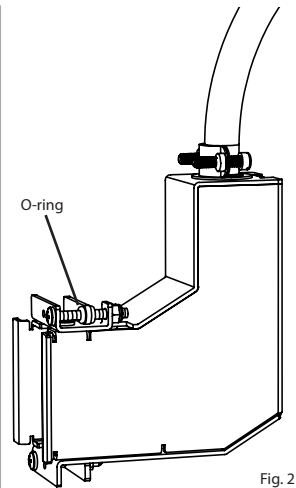

Fig. 2
8. Flip **Wing Tabs** inward so that the **Minibox** will fit into the drywall opening (Fig. 2).
11. Flip **Wing Tabs** inward so that the **Minibox** will fit into the drywall opening (Fig. 2).
12. Slide **O-rings** along **Mounting Screws** so that they are flush against the wing tabs (Fig. 2).